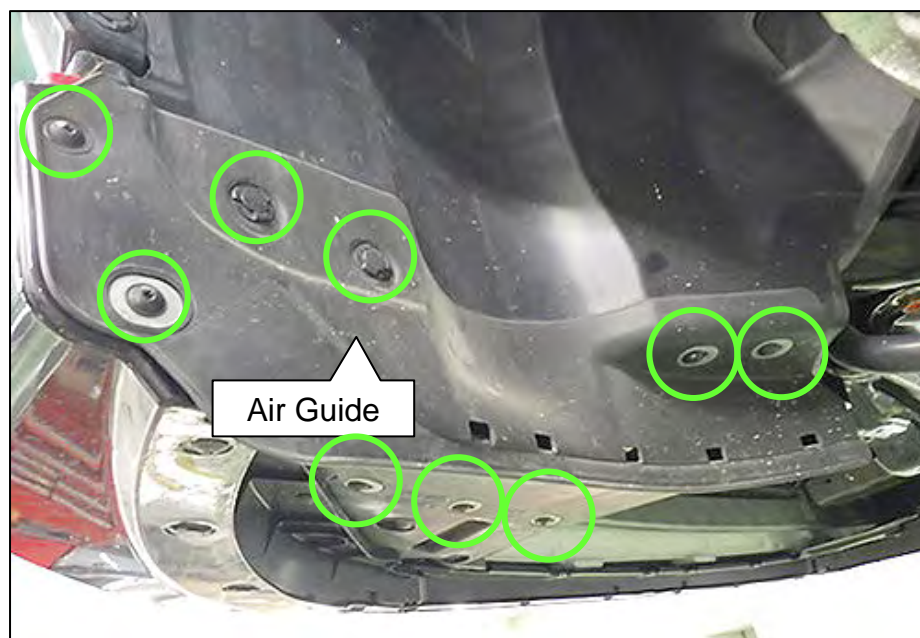

Figure 25
43. Remove the driver (LH) side Air Guide (Figure 25).
- Seven (7) screws and two (2) clips.